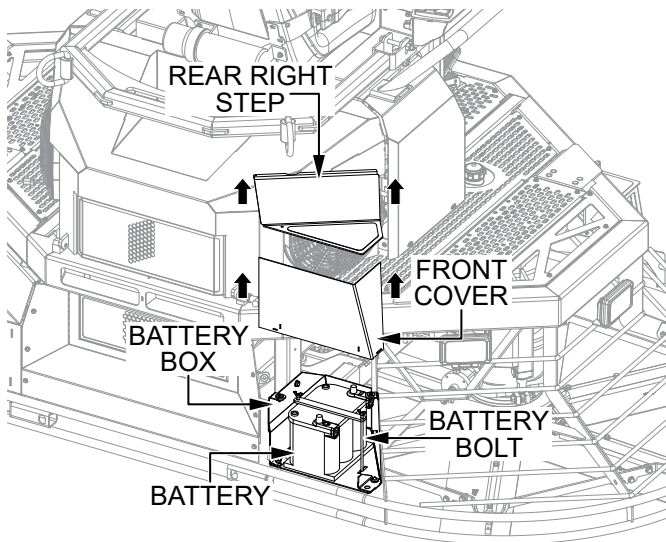

Figure 19. Battery Access
1. To access the battery, pull upward on the rear right step (Figure 19) to remove it. Set the step aside.
2. Remove the battery box front cover (Figure 19) and set it aside.
3. Make sure the battery is well seated in the battery box and secured with the two battery bolts (Figure 19).